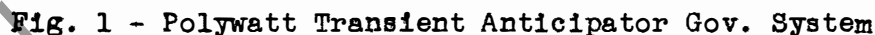

Fig. 1 - Polywatt Transient Anticipator Gov. System
Figure 1 shows a schematic diagram of the anticipating device and its relation to the turbine governor. The device proper consists of two wattmeter balance elements with the cores connected through a spring to the balance beam. These elements are all connected to pull downward and are energized through the potential and current transformers shown. As load is put on the unit, a downward force is exerted on the cores which move downward, stretching their respective springs and keeping the beam against the stop shown at the right. The cores assume a position corresponding to the sum of the load being carried in the two windings of three phases each.
(6) Repeat (3) to (5) with the lower right coil balanced against the upper left.
(7) Repeat (3) to (5) with the lower left balanced against the lower right coil.
(8) Reset and lock stop screw as first determined in (1) to give 4 - to 6 - mill. contact gap. Reconnect biasing springs to lever. Set needle valve to 8 turns open. Complete connections to all coils per diagram (Figure 1) so all coils pull downward.
(9) Connect to a balanced 3-phase load, (such as rheostats across each phase), through two or three-pole load dumping disconnect switch. (If convenient, two shunting relays can be arranged to open two outside lines to the load for sudden load dumping by energizing relays.) Connect the sealing-in relay to the contacts so as to seal itself closed when the anticipator contacts momentarily close. Adjust the biasing spring to hold the anticipator contacts open under steady load or on no load; but so that when a load of the desired magnitude is suddenly dumped, the contacts momentarily close as shown by the sealing-in relay. Begin spring adjustment by centering the adjusting studs of both springs, then cutting off the left-hand spring turn at a time (bending up new hook) till the anticipator operates. Allow ample time between each load-dumping test to permit dashpot piston to fully creep to its final position of balance. Complete adjustment with right-hand spring adjusting stud.